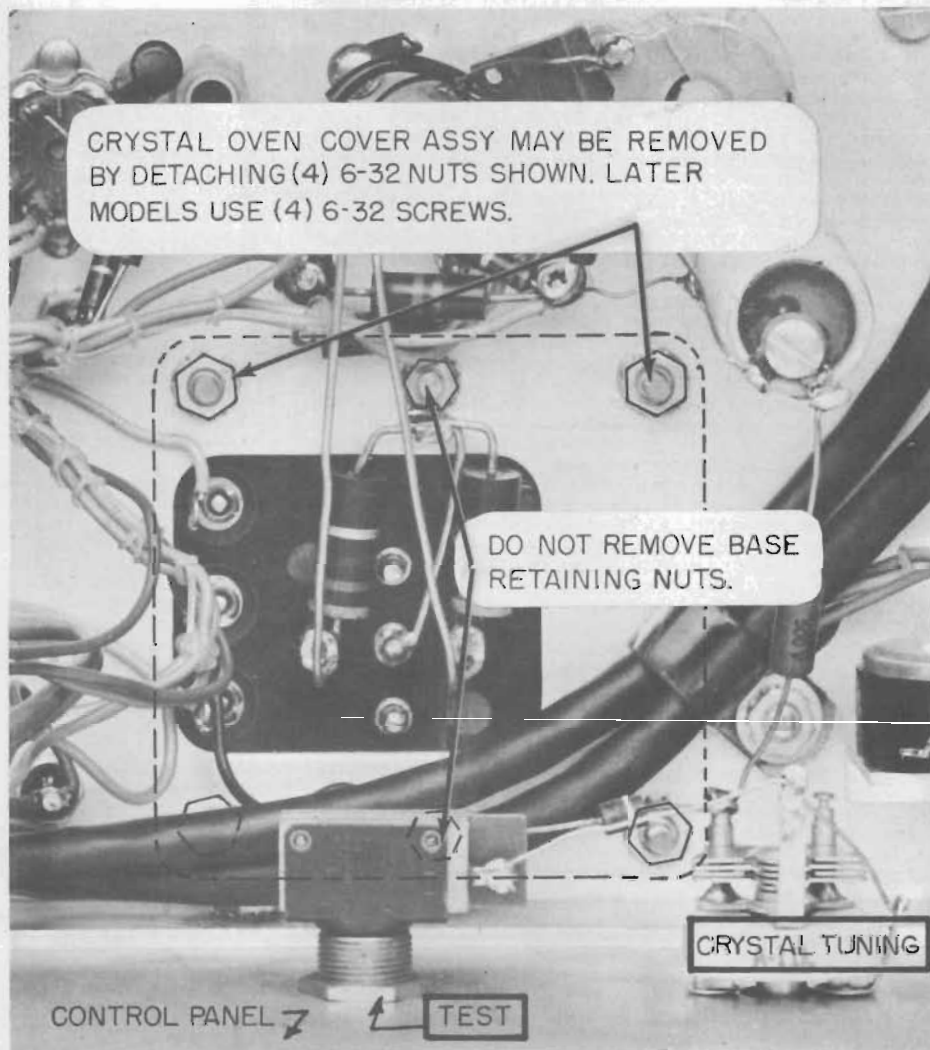

Fig. 4B. Location of Crystal Oven Mounting Screws
3. Remove four 6-32 nuts (or screws) which hold oven top. See figure 4B.